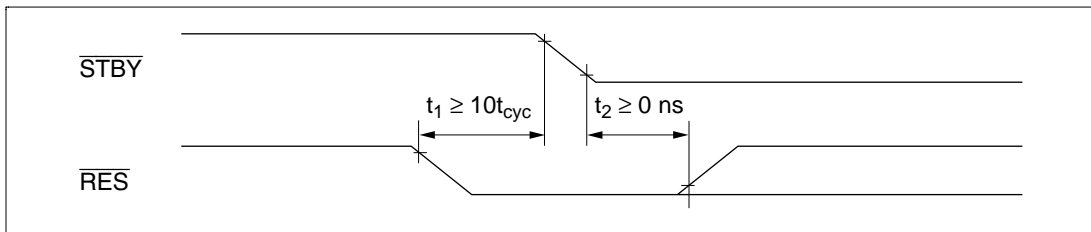

Figure E.1 Timing of Transition to Hardware Standby Mode
- (1) To retain RAM contents when the RAME bit in SYSCR is set to 1, drive the $\overline{\text{RES}}$ signal low 10 system clock cycles before the $\overline{\text{STBY}}$ signal goes low, as shown in figure E.1. $\overline{\text{RES}}$ must remain low until $\overline{\text{STBY}}$ goes low (minimum delay from $\overline{\text{STBY}}$ low to $\overline{\text{RES}}$ high: 0 ns).